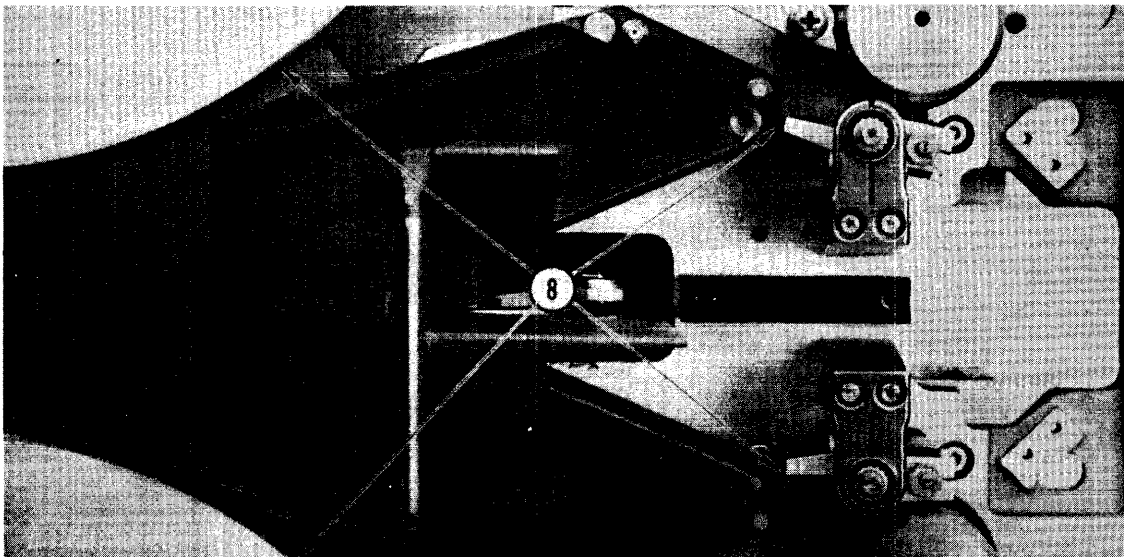

Figure 5-11.
- Step 5: See Figure 5-11. Position vacuum chamber in horizontal plane. Be sure that vacuum chamber does not interfere with reel rotation or with capstan roller yokes. At the same time, position vacuum chamber in the vertical plane so that tape passes between capstan roller and capstan without touching the capstan roller. (Refer to Step 2 above.)